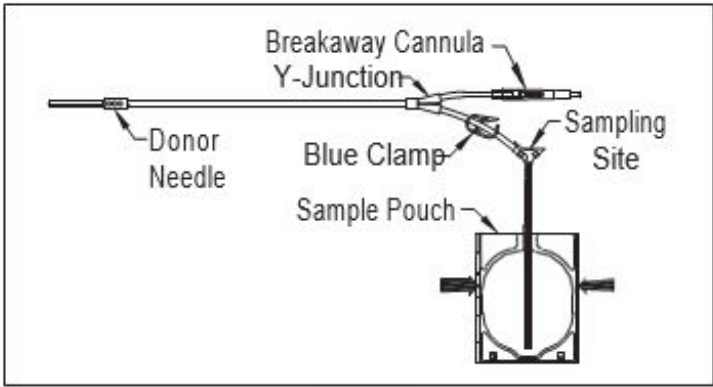

Figure 1
- **Do not use the product if the in-line cannula is broken and/or anticoagulant is present in the sample pouch or in the tubing from the in-line cannula to the sample pouch and donor needle (see Figure 1). Note that condensation in the empty tubing of the Blood-Pack unit is expected as a result of the sterilization process.**
- If less blood sample volume is required, the flow to the sample pouch may be stopped prior to completely filling the pouch. For example, in order to target a fill volume of approximately 40 mL, fill to the level indicated by the arrows in Figure 1. Ensure the pouch is hanging vertically.